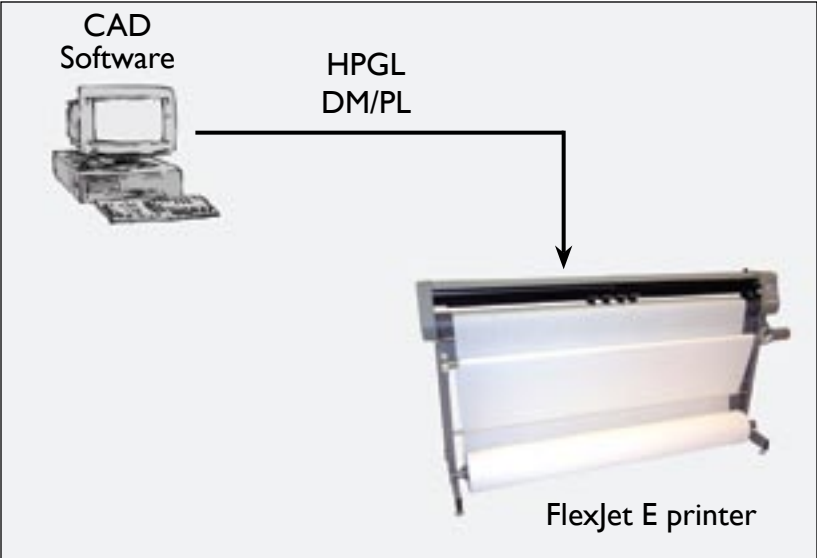

Figure 11. Workflow: output direct from CAD software (without FlexPlot).
1. **Plot directly from the marker or design software to the printer.** (See Figure 11.)